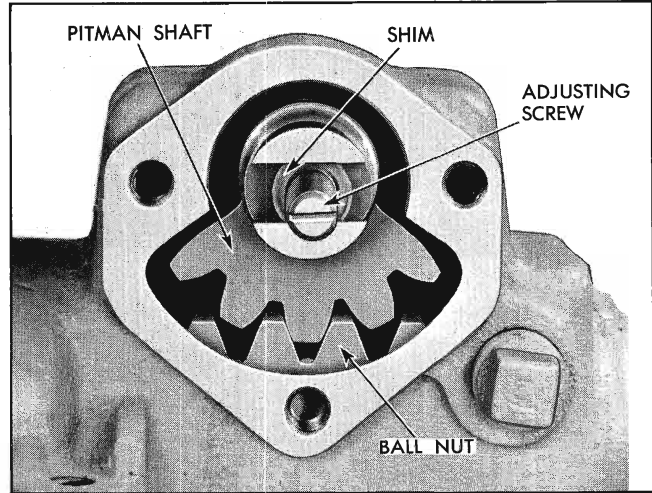

Fig. 9-37 Positioning Pitman Shaft and Ball Nut
8. Install pitman shaft and adjusting screw with sector and ball nut teeth positioned as shown in Fig. 9-37.